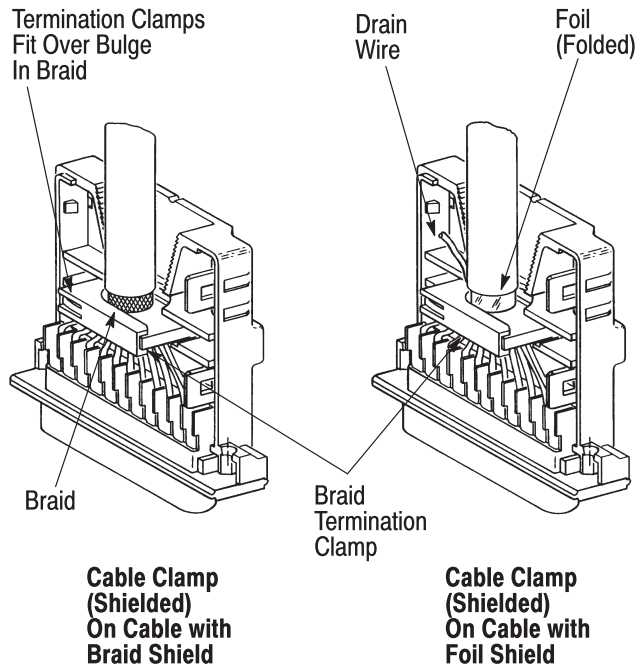

Figure 3
6. Position the terminated connector on one half of the cable clamp, and — if using the shielded version of the cable clamp kit — insert the terminated braid clamp between the retaining walls of the housing, applying sufficient force to bottom the braid clamp in the retaining area. See Figure 3. If using an unshielded clamp kit, simply ensure that the connector flange is properly placed in one half of the cable clamp.